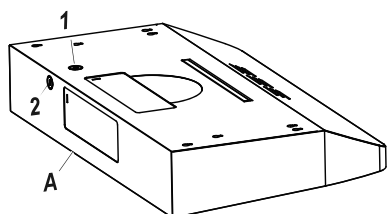

Fig. 10
- Connect a UL-listed or CSA-approved conduit connector to each end of the power supply cable (at the range hood and at the junction box). Connect the 2 colored wires from the range hood to the corresponding wires from the electrical source: black to black (live), white to white (neutral), and the house grounding wire to the green ground screw. Use either the top hole (1) or the back hole (2) of the range hood depending on your installation type as shown in Fig. 10.
- Choose the appropriate electrical knock-out hole to remove for your installation type. Use the top hole (1) if your electrical supply is in the cabinet and the back hole (2) if your electrical supply is on the wall below the cabinet (refer to Fig. 10).